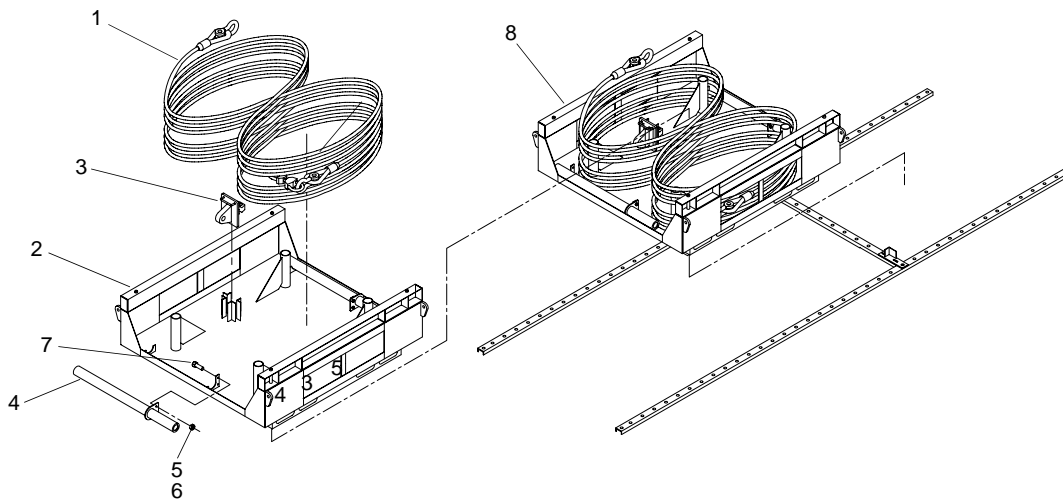

Figure 20. Mooring Leg Stowage
8. Using forklift, remove mooring leg cable assemblies (figure 20, item 1) from upper mooring cable pallet (figure 20, item 2) and place them on the FC platform for mooring leg assembly.
9. Remove the deadman padeye (figure 20, item 3) from upper mooring cable pallet (figure 20, item 2).
10. Remove two anchor stabilizers (figure 20, item 4) from upper mooring cable pallet (figure 20, item 2) by removing nuts (figure 20, item 5), lockwashers (figure 20, item 6) and bolts (figure 20, item 7). Retain all parts for later installation on anchors.
11. Using forklift, remove upper mooring cable pallet (figure 20, item 2) from lower mooring cable pallet (figure 20, item 8) and place on FC platform.
12. Repeat step 8 through step 10 to unpack the lower mooring cable pallet (figure 20, item 8).